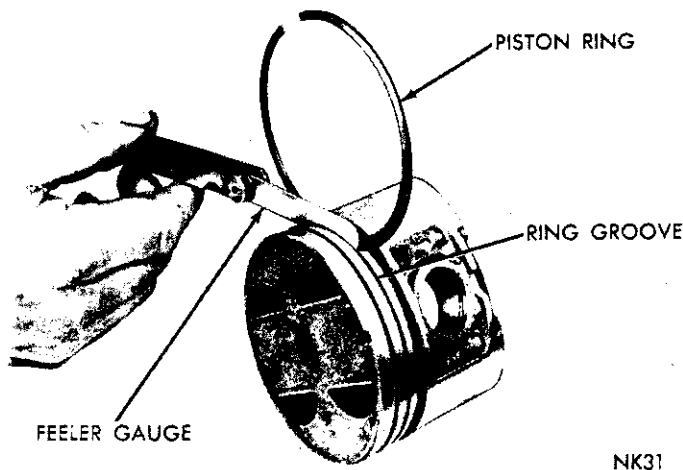

Fig. 40—Measuring Piston Ring Clearance
(1) Measure piston ring gap about two inches from bottom of cylinder bore in which it is to be fitted (An inverted piston can be used to push the rings down to insure positioning rings squarely in the cylinder wall before measuring).
(2) Insert feeler stock in the gap. The ring gap should be between .010 to .020 inch for compression rings and .015 to .062 inch for oil ring steel rails in standard size bores (for new service rings). Maximum gap in .005 inch O/S bores should be .060 inch for compression rings and .070 inch for oil ring steel rails.
(3) Measure side clearance between piston ring and ring land (Fig. 40). Clearance should be .0015 to .003